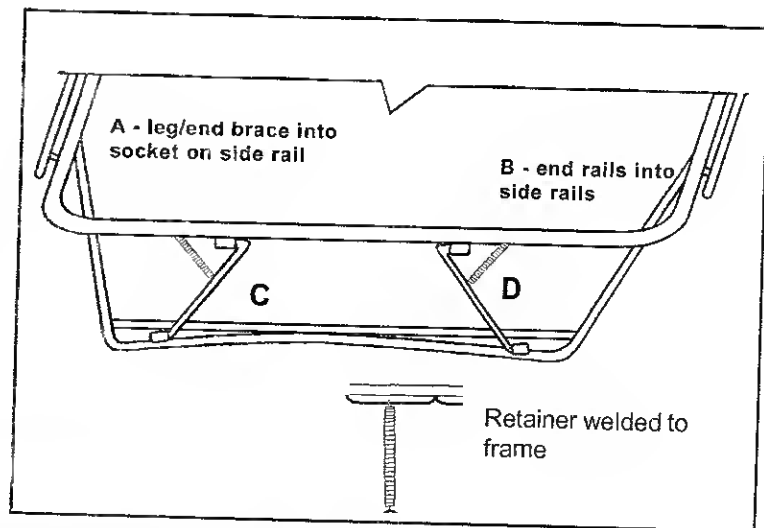

FIGURE 2
2C - Attach leg/end braces into the sockets on the top rail and leg brace (at C figure 2).
2D - You will need four (4) springs for this assembly phase. At each leg brace attach a spring to the spring retainer on the leg brace and to a retainer (hook point) on the end rail. The tension spring must be tight, not loose (at D figure 2).